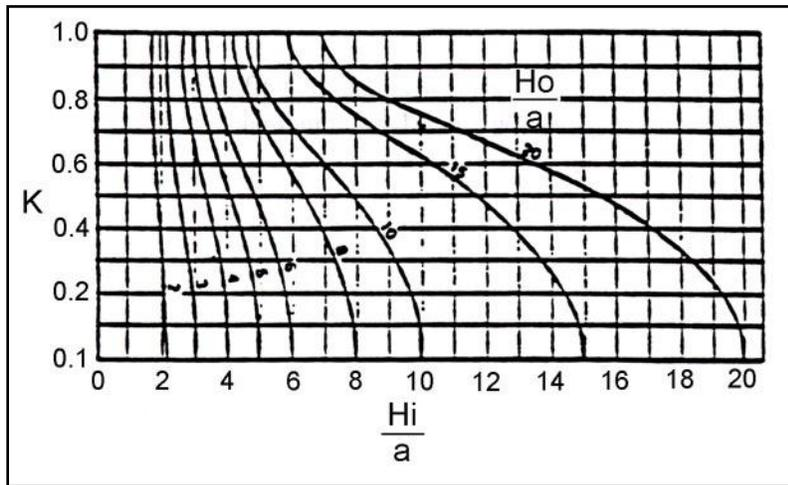

Figure G.1 Absolute downstream control of flow under gate.
- K = coefficient found in Figure G.1